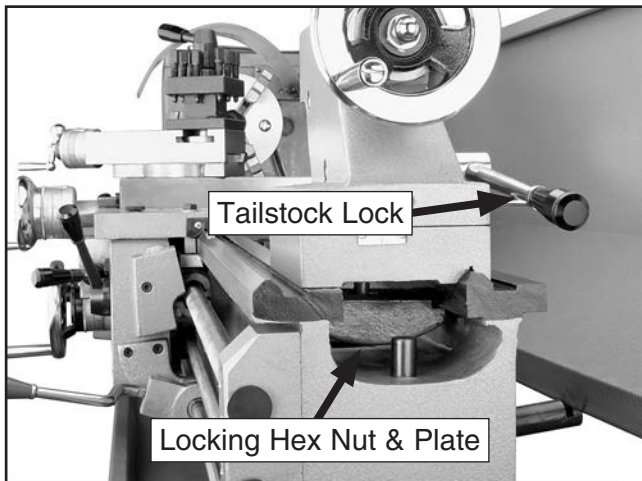

Figure 98. Tailstock locking hex nut and plate.
- Move the tailstock lock down, then position the tailstock to an area on the bedway that will allow access to the locking hex nut and plate underneath the tailstock (see **Figure 98**).